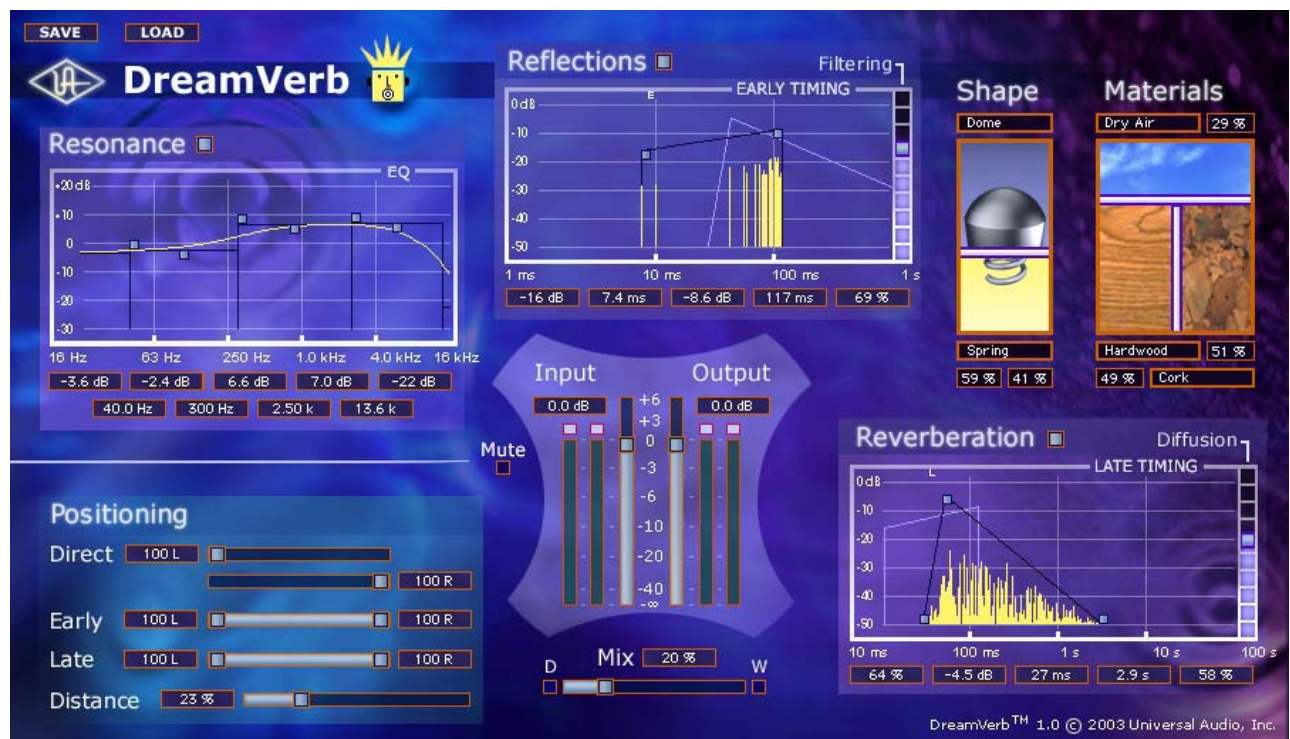
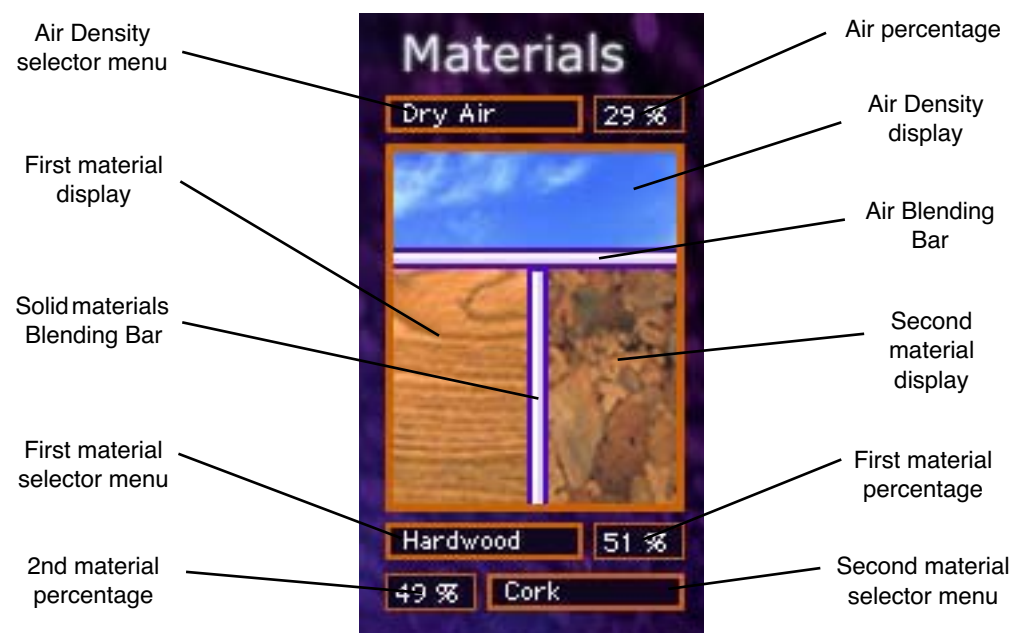
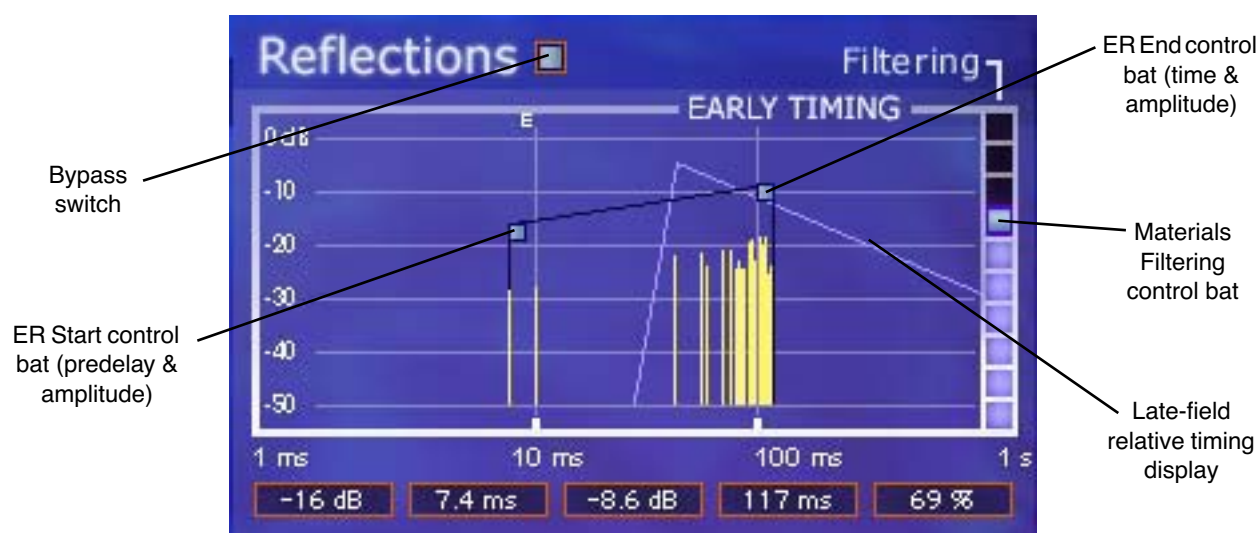
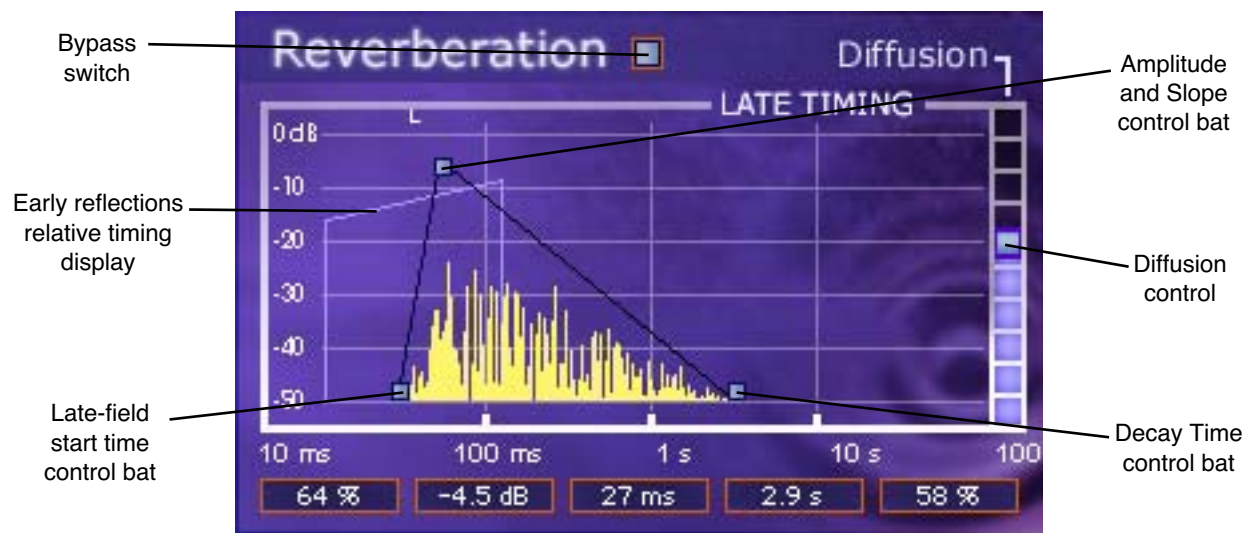

Figure 29. The DreamVerb plugin window
Figure 34. DreamVerb Materials panel
Figure 35. DreamVerb Reflections panel
Figure 36. DreamVerb Reverberation panel
The DreamVerb user interface (Figure 29 on page 95) is similarly organized. Reflected energy equalization is controlled with the Resonance panel. The pattern of early reflections (their relative timing and amplitudes) is determined by the room shapes in the Shape panel (Figure 33 on page 98). Early reflection pre-delay, slope, timing, and amplitude are specified in the Reflections panel (Figure 35 on page 103). The Materials panel (Figure 34 on page 100) is used to select relative late-field decay rates as a function of frequency. The late-field predelay, decay rate, room diffusion, slope, and level is specified in the Reverberation panel (Figure 36 on page 104). Finally, the Positioning panel (Figure 37 on page 106) contains controls for the placement of the source, early reflections, and late-field reverberation.
The parameters in the Shape panel, in conjunction with the Materials panel (Figure 34 on page 100), effect the spatial characteristics of the reverb.
The resulting early reflection pattern is displayed at the top of the Reflections panel (Figure 35 on page 103), where each reflection is represented by a yellow vertical line with a height indicating its arrival energy, and a location indicating its arrival time.
The parameters in the Materials panel, in conjunction with the Shape panel (Figure 33 on page 98) and Reverberation panel (Figure 36 on page 104) effect the spatial characteristics of the reverb.
**Note:** While materials are used to control decay rates as a function of frequency, the overall decay rate of the late-field reverberation is controlled from the Reverberation panel (see Figure 36 on page 104).
**Note:** The parameters in the Materials panel always effect the late-field reverberations. However, the materials parameters effect the early reflections ONLY if the “Filtering” parameter in the Reflections panel (Figure 35 on page 103) is set to a non-zero value.
The Materials Blending Bars (see Figure 34 on page 100) are used to blend the three materials together at any ratio. The materials are not just mixed together with the bars; the reverberation algorithm itself is modified by blending.
The Reflections panel (Figure 35 on page 103) offers control over the timing and relative energies of the reverb early reflections (ER). These parameters effect the reverb’s perceived clarity and intimacy. Each early reflection is visually represented by a yellow vertical line with a height indicating its arrival energy and a location indicating its arrival time.
The Reverberation panel (Figure 36) contains the parameters that control the late-field (LF) reverb tail for DreamVerb.